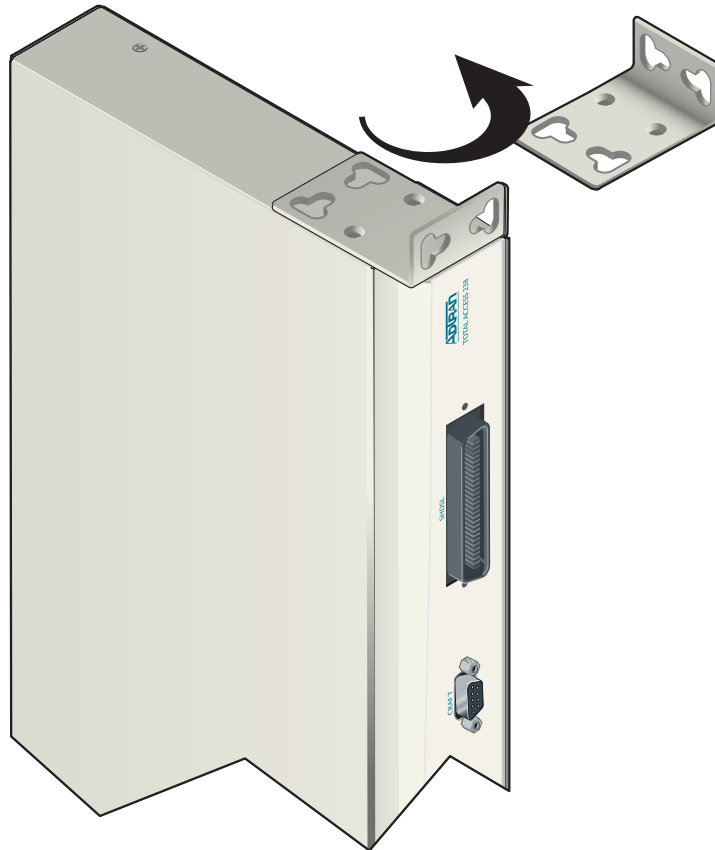

Figure 8. Repositioning the Brackets for Wallmounting
1. Remove the mounting brackets. (The Total Access 238 ships with mounting brackets attached for a 19-inch rackmount installation.) Rotate them 90° so that the portion of the bracket with the mounting holes (shorter side) is flush with the bottom of the chassis, and reattach them to the chassis (Figure 8).